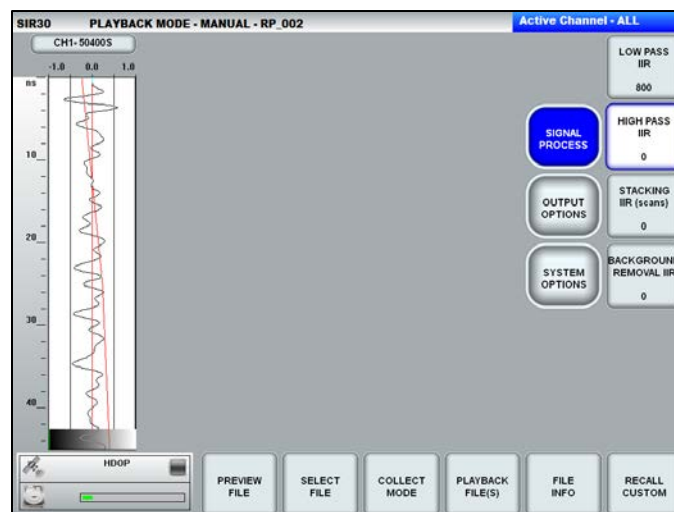

Figure 133: IIR HP Filter On.
- 2 The User can evaluate changes to the filter or gain collection parameters for data playback. In Figure 133 below the IIR High Pass filters have been turned off. To evaluate the effect of these changes the User should select Preview File. See Figure(s) 134 & 135 below.